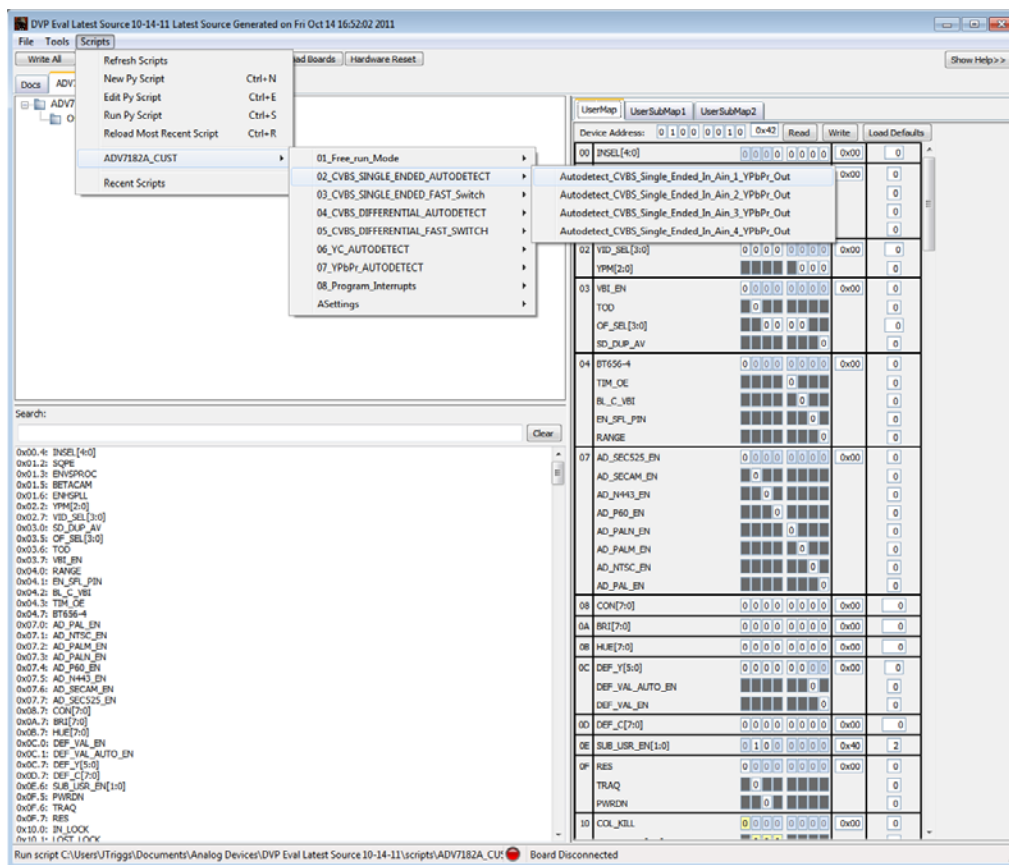

Figure 8. Running EVAL-ADV7182AEBZ Script on DVP Eval Software
5. Select **Scripts > ADV7182A_CUST** to select and run a script to configure the evaluation board (see Figure 8).
6. To monitor the registers of the ADV7182A or the ADV7391, click on the associated device tab within the DVP Eval Software (see Figure 8).